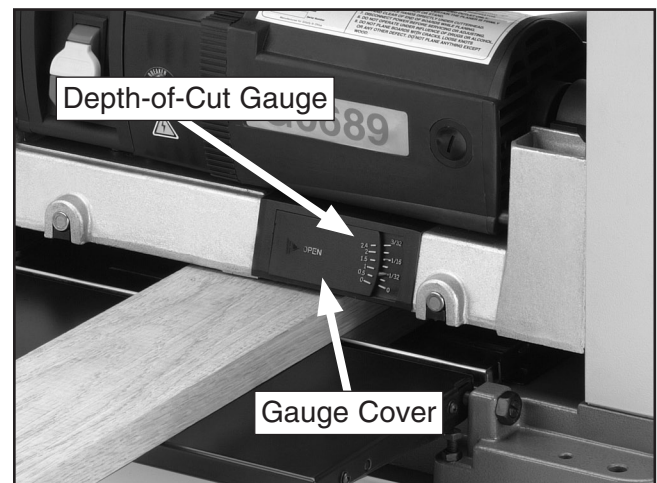

Figure 15. Depth-of-cut gauge.
1. Lower the cutterhead assembly to just above your workpiece, then place your workpiece under the center of the cutterhead assembly, as shown in Figure 15. (Make sure the workpiece only extends 1"–2" under the front of the gauge and does not extend into the path of the cutterhead knives.)